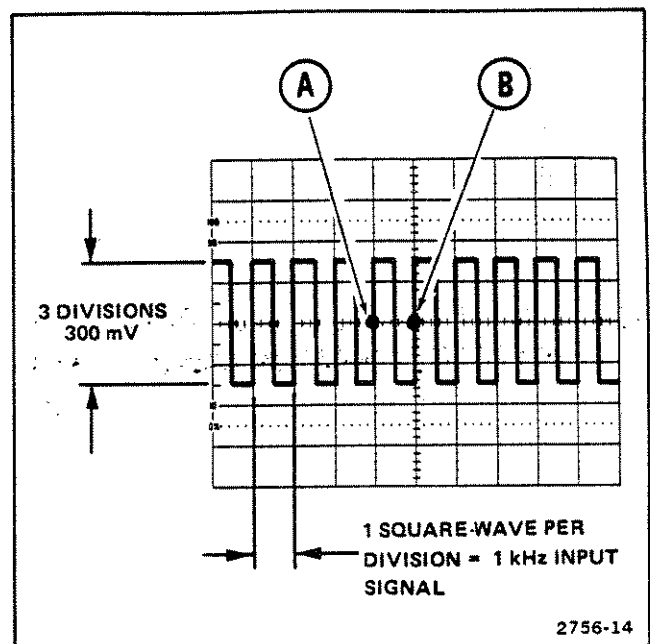

Figure 13. DM44 timing check.
4. Using the DELAY TIME POSITION control, move the reference point to a leading edge of the square wave (see Figure 13, Point A).
5. Using the DM44 Δ TIME control, move the time-measurement point to the leading edge of the next square wave (see Figure 13, Point B).